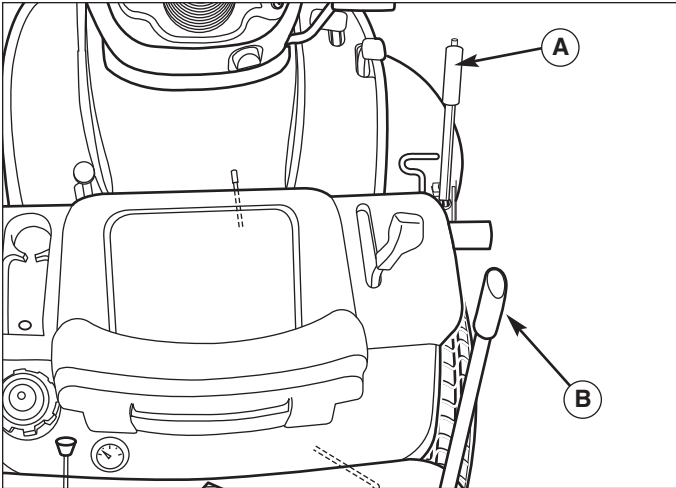

Figure 6. Raising & Lowering Mower
2. Place mower in the lowest cutting position using the mower height adjuster / lift lever (A, Figure 6).
3. Place mower height adjuster (A, Figure 6) in the lowest cutting position. Place the mower lift lever (A) in the lowest position. Slide mower deck under right side of tractor so that mower hitch is aligned with front tractor hitch.